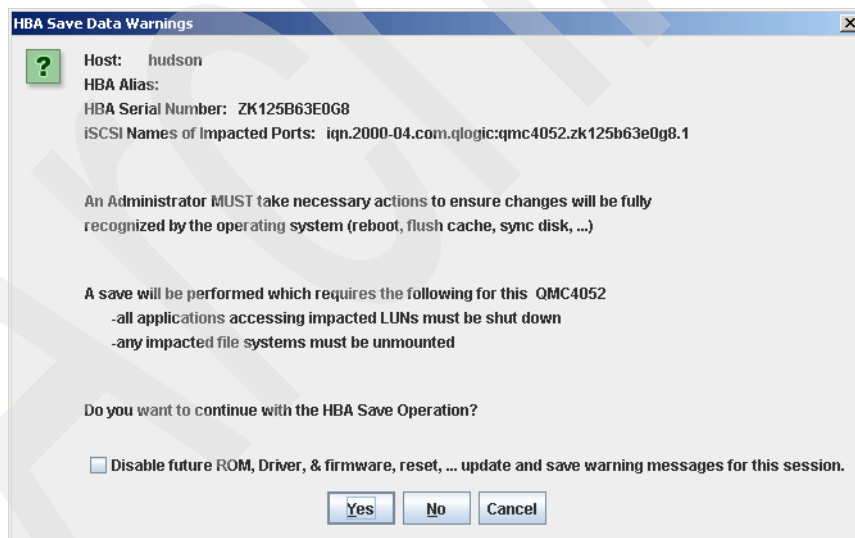

Figure 21-59 SANsurfer - Save Data Warning
12. Confirm the warning by clicking **Yes**. See Figure 21-59.